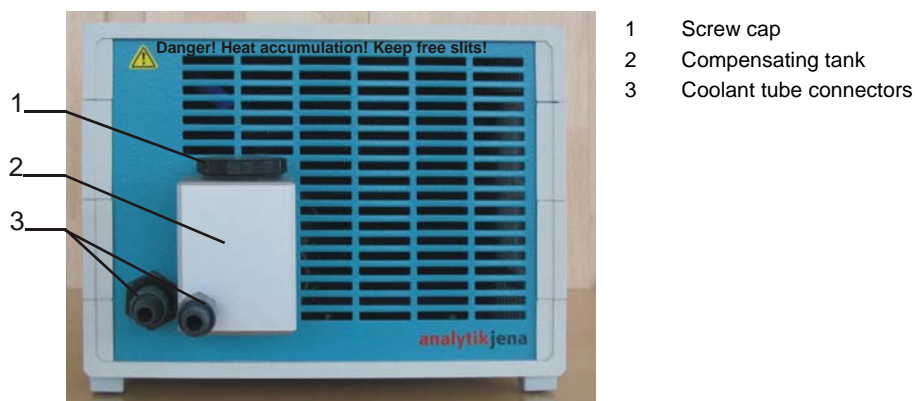

Fig. 13-19 Heat exchanger, front panel
3. Slip the tubes from the cell holder/changer over the appropriate tube connectors of the heat exchanger (Fig. 13-19 / 3) and lock them in place by turning the knurled nuts anti-clockwise.
4. Remove screw cap (Fig. 13-19 / 1) by turning it anti-clockwise.
6. Fill the prepared coolant through the opening in the compensating tank (Fig. 13-19 / 2) until the filling level is approximately 1.5 cm below the top edge of the compensating tank and the coolant circuit is free of air bubbles (no bubbles rising in the tank and a noise-free circulation of the coolant).